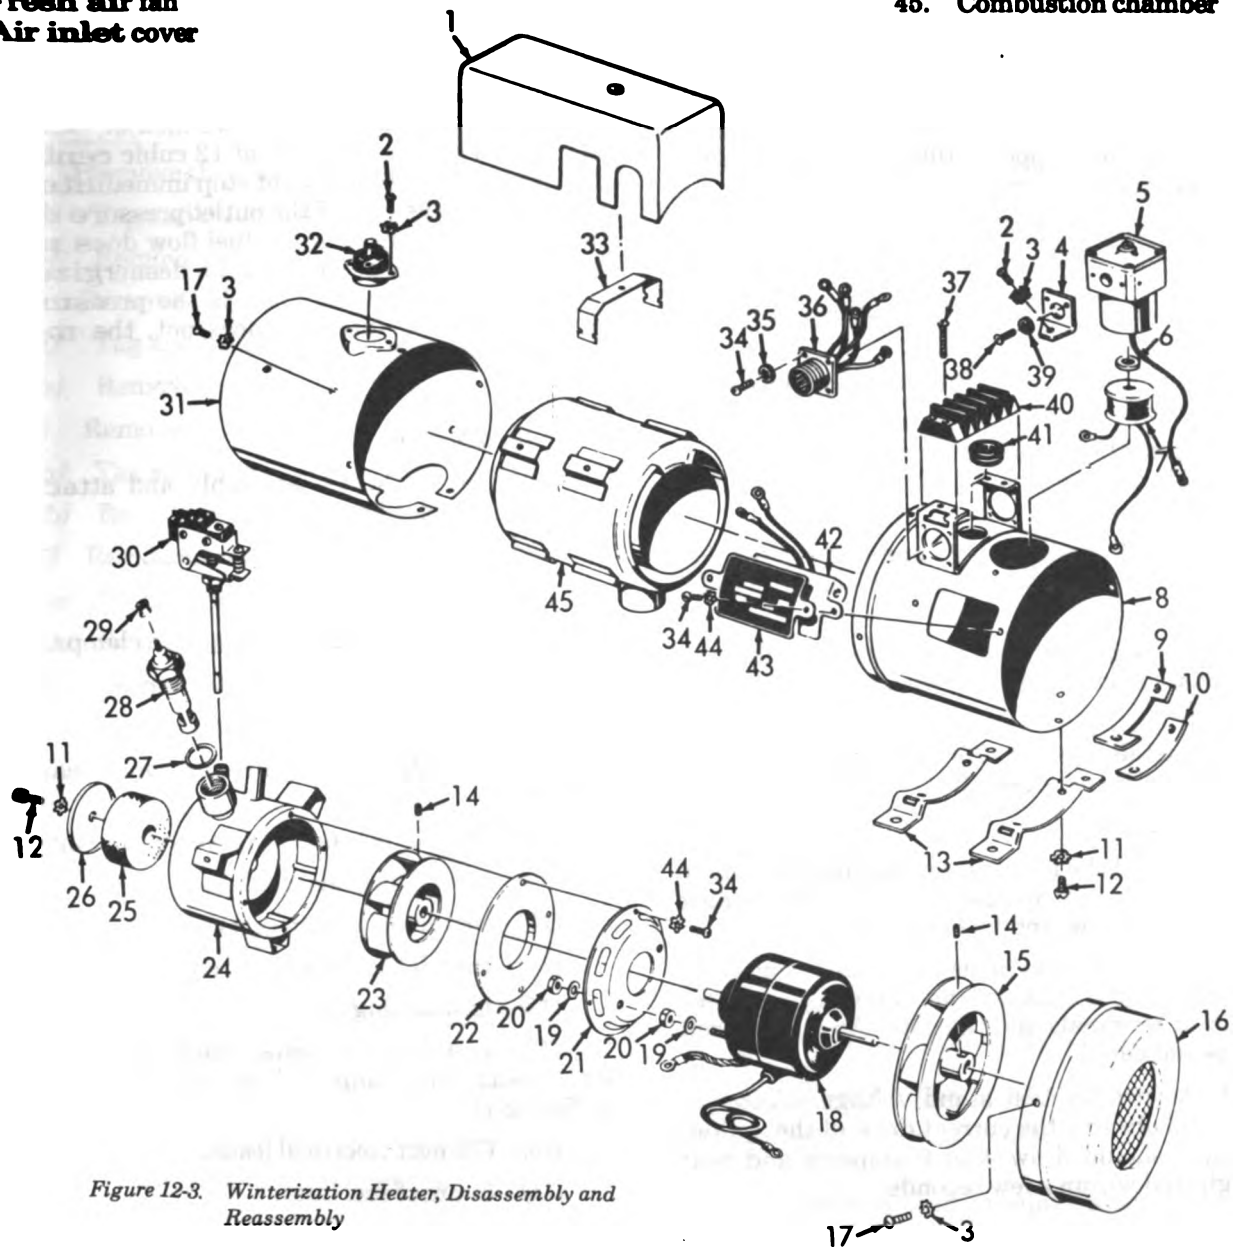

Figure 12-3. Winterization Heater, Disassembly and Reassembly
- (1) Remove screws (2, fig. 12-3) washers (3), limit switch (32) and bracket (33).
- (2) Remove screws (17) and washers (3) and separate combustion chamber casing (31) from combustion chamber (45).
- (3) Tag and disconnect electrical leads and remove screws (34), washers (44), data plate (43) and resistor (42).
- (4) Tag and disconnect electrical leads and remove screws (34), washers (35) and electrical receptacle (36).
- (5) Remove screws (37), terminal block (40) and grommet (41).
- (6) Remove screws (2 and 38), washers (3 and 39) and bracket (4).
- (7) Tag and disconnect electrical leads and remove regulator valve (5), grommet (6) and solenoid coil (7).
- (8) Remove screws (12), washers (11), mounting brackets (13), plain support (10) and notched support (9) from burner casing (8).
- (9) Remove combustion chamber switch (30), nut (29), igniter (28) and gasket (27) from burner (24).
- (10) Remove screw (12), washer (11), vaporizer retainer (26) and ceramic vaporizer (25).
- (11) Remove screws (17) and washers (3) separating air inlet cover (16) from burner casing.
(1) Assemble combustion air inlet to blower motor (18, fig. 12-3) with washers (19) and nuts (20).
(2) Install inlet plate (22).
(3) Install combustion fan (23) and fresh air fan (15) and tighten setscrews (14).
(4) Attach combustion air inlet (21) to burner with screws (34) and washers (44).
(5) Attach air inlet cover (16) to burner casing with screws (17) and washers (3).
(6) Install ceramic vaporizer (25), vaporizer retainer (26), washer (11) and screw (12).
(7) Install combustion chamber switch (30), nut (29), igniter (28) and gasket (27) into burner (24).
(8) Assemble burner casing (8), notched support (9), plain support (10), mounting brackets (13), washers (11) and screws (12).
(9) Install solenoid coil (7), grommet (6) and regulator valve (5) and connect electrical leads.
(10) Install bracket (4) with washers (3 and 39), and screws (2 and 38).
(11) Install grommet (41), terminal block (40) and screws (37).